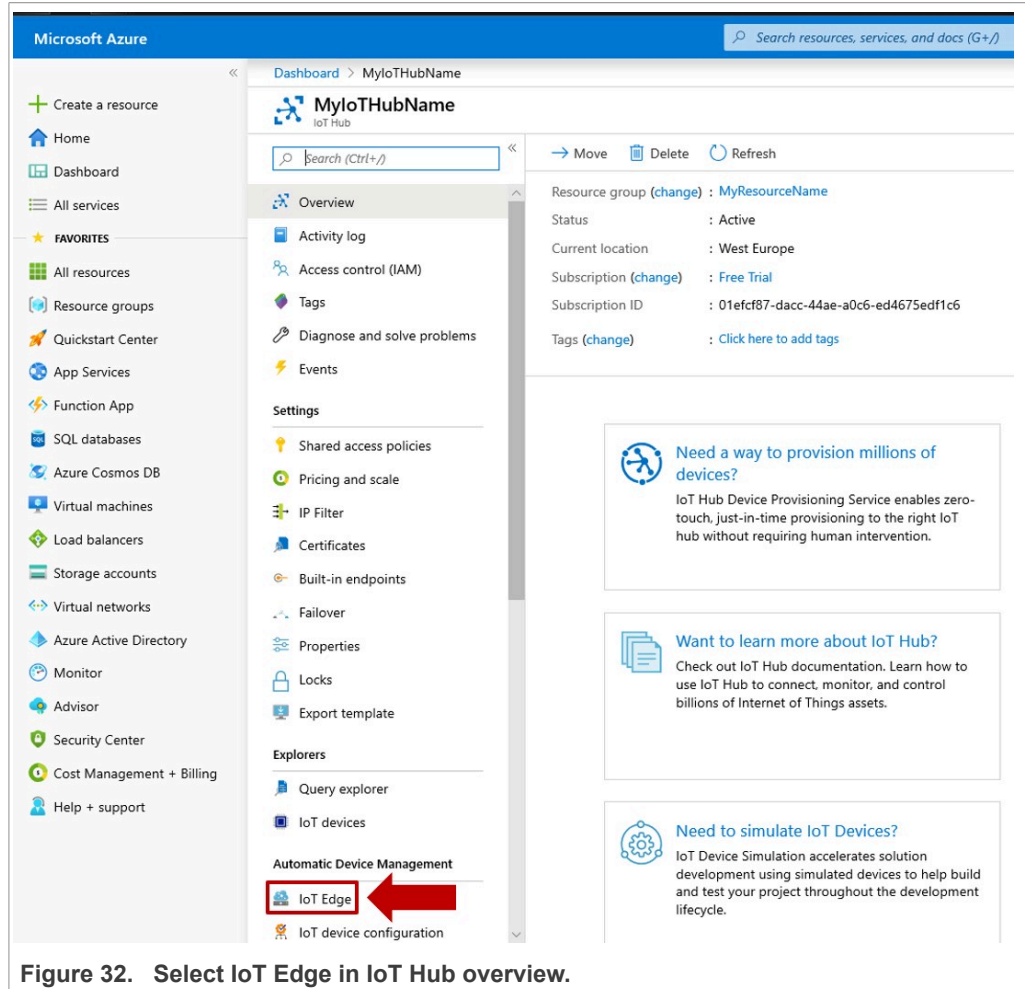

Figure 32. Select IoT Edge in IoT Hub overview.
- 2. To confirm the device connection, go to IoT Hub in the Azure dashboard and click on **IoT Edge** as shown in Figure 32.